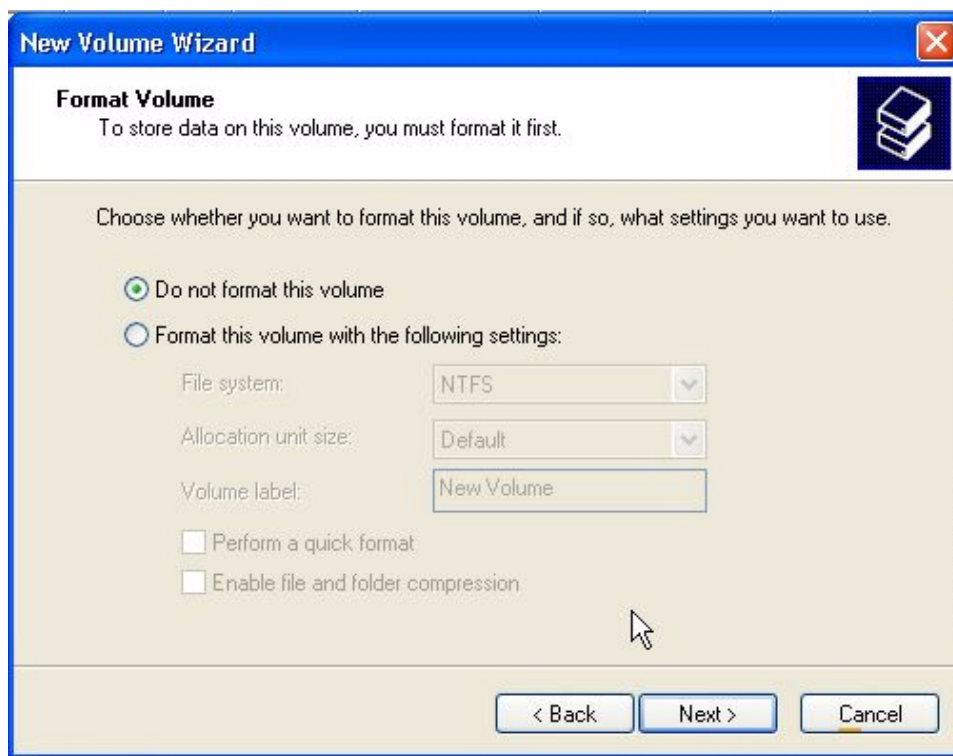

FIGURE 6-33. New Volume Wizard - Format Volume Screen.
5. The *New Volume Wizard - Format Volume* screen appears. Select “Do not format this volume”. Click **NEXT >**. See Figure 6-33.